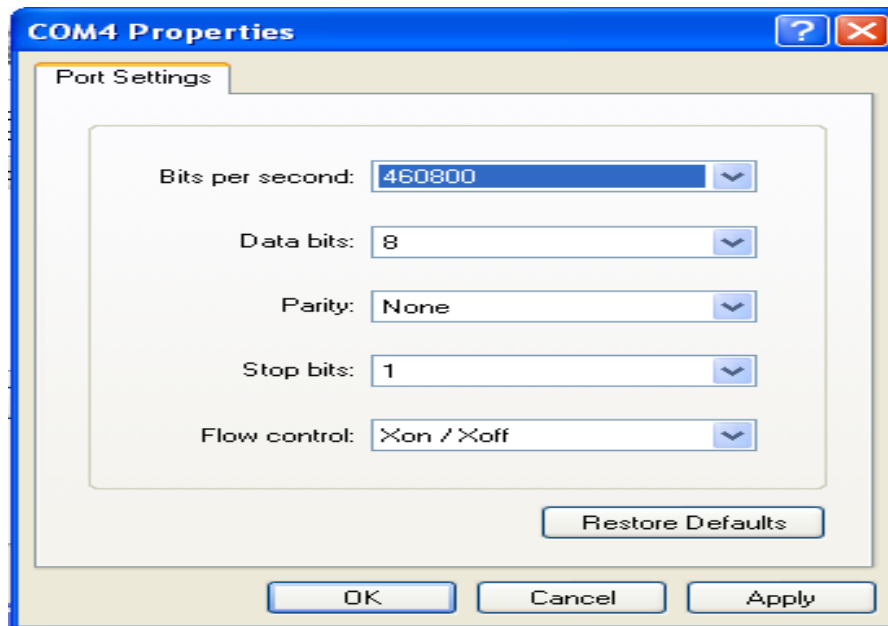

Figure 2-25: Set Communication Options
Step 3: Set the options in Figure 2-25 as shown below.